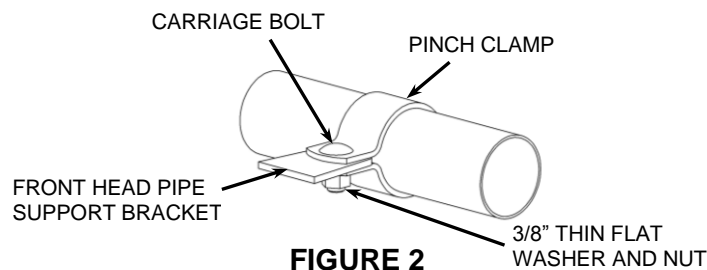

FIGURE 2
8. Slide the supplied pinch clamp over the front headpipe making sure the square hole on the clamp is facing up and towards the inside. Position the clamp over the support bracket so that the pinch clamp captures both sides of the bracket. See **FIGURE 2**. Insert the supplied 3/8" carriage bolt through the top of the pinch clamp and support bracket. Install the 3/8" thin flat washer and nut onto the bottom of the carriage bolt but **DO NOT TIGHTEN** at this time. Leave the nut loose so the headpipe can be adjusted.